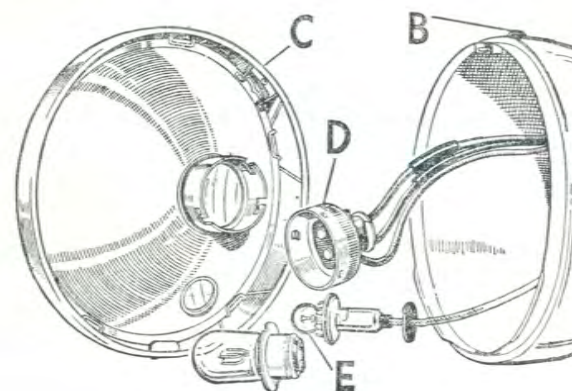

FIG. 31. Headlight dismantled for bulb removal.
To gain access to the headlight bulb slacken the front rim retaining screw (B) situated at the top of the body (Fig. 31). Disengage and withdraw the front rim and light unit assembly (C) removing the upper edge first. Press the adapter (D) inwards and turn it to the left. Lift off the adapter and withdraw the defective bulb. After fitting the replacement bulb, reverse the above procedure to re-assemble the lamp. The bulbs are of the pre-focus type and are 12 volt, 50/40 watt.
Disengage and withdraw the front rim and light unit assembly. The parking light bulb holder and bulb (E) Fig. 31, can then be withdrawn from the reflector in which it is a push-fit. Use a 12 volt, 6 watt bulb.